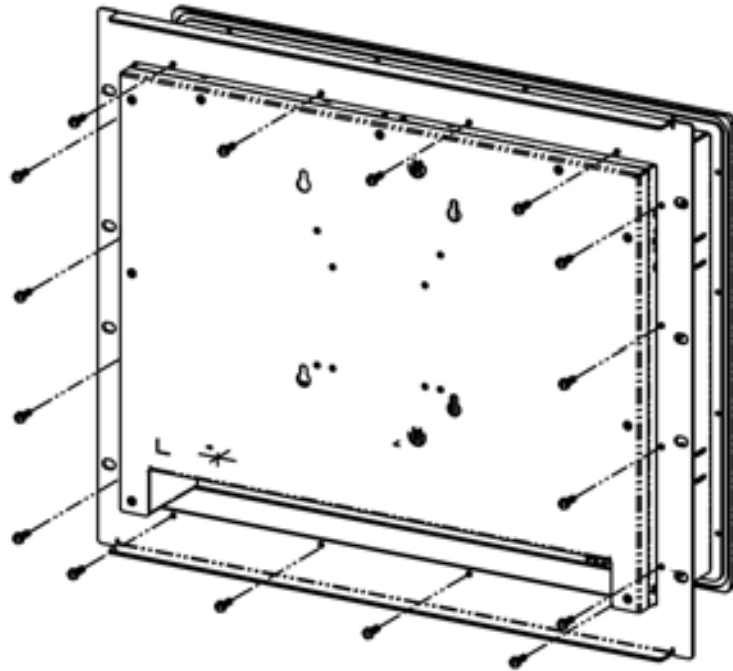

Figure 5-12: Secure the Cabinet/Rack Bracket
Step 4: Secure the cabinet/rack bracket to the monitor by inserting and tightening the retention screws (**Figure 5-12**).